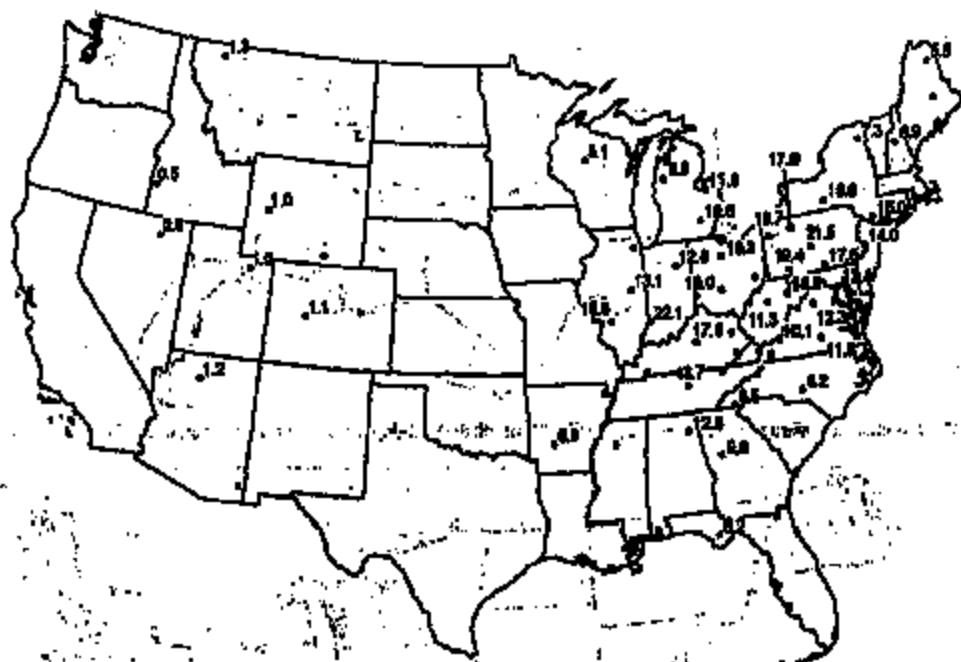

FIGURE 10. Mean annual total sulfur deposition (dry + wet) for 1990-1993 (kg/ha).
**Total Sulfur and Nitrogen Deposition.** *Total Sulfur Deposition.* The mean annual total sulfur deposition for the period 1990-1993 is shown in Figure 10. Total sulfur deposition is defined as the sum of the dry component ( $\text{SO}_2$  and  $\text{SO}_4^{2-}$  particles) and wet component ( $\text{SO}_4^{2-}$  in precipitation) as sulfur. Total sulfur deposition in the east was highest in areas of highest  $\text{SO}_2$  emissions. CASTNet sites in the Ohio River Valley had mean total sulfur depositions between 15 and 22 kg/ha. CASTNet sites in Pennsylvania, southern New York, and West Virginia also had total sulfur deposition greater than 15 kg/ha. Sites away from the major  $\text{SO}_2$  emission sources had values between 5 and 10 kg/ha. In the western United States, the mean annual total sulfur depositions for the period 1990-1993 were between 1.2 and 2.4 kg/ha.